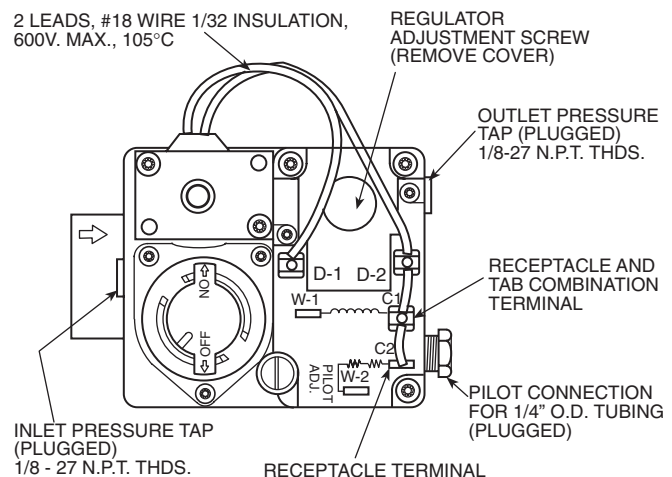

Fig. 27 — Gas Valve (48HG Only)
6. Remove screw cap covering regulator adjustment screw (See Fig. 27).